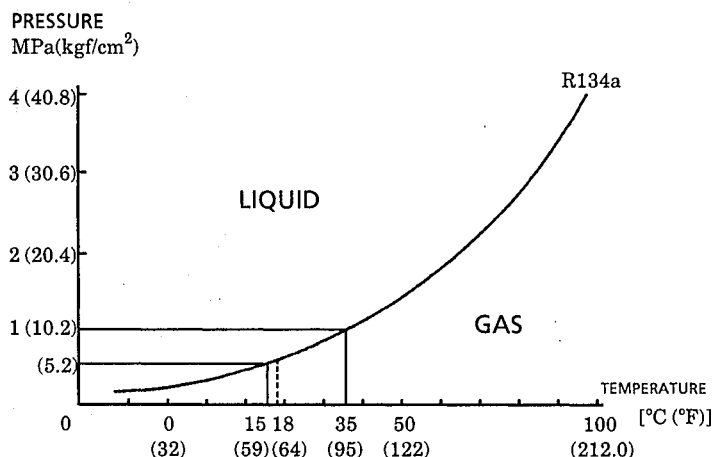

Fig. 6 Pressure-temperature characteristics of R134a
(2) Characteristics of Refrigerant (See Fig.6.)